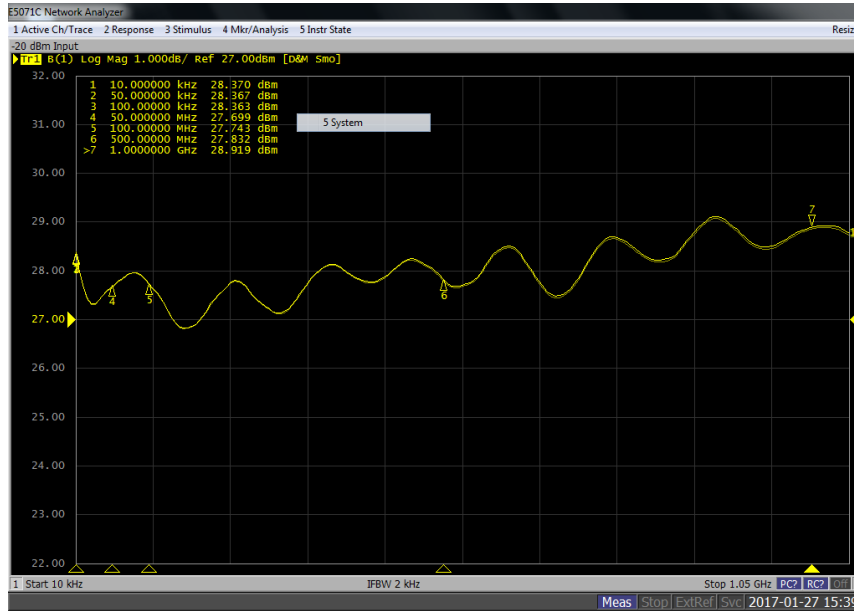
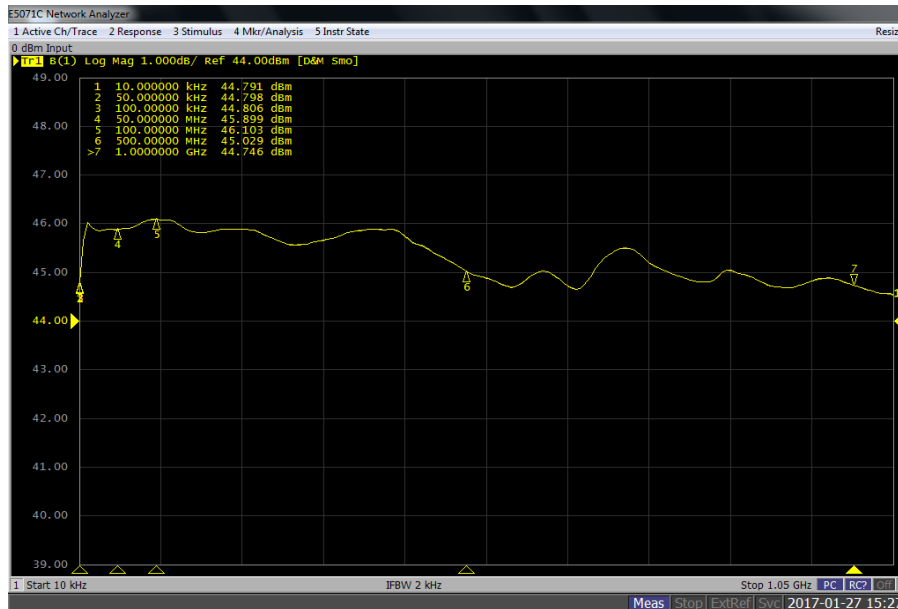

Figure 4-1. Typical Response at -20dBm Input
Figure 4-2. Typical Response at 0 dBm Input
1. The Model 25U1000’s typical gain response at -20 dBm input and 0 dBm input is shown in Figure 4-1 and Figure 4-2. The actual gain may vary considerably from that shown in Figure 4-2 but should be ≥ 44 dBm at 0dBm input.